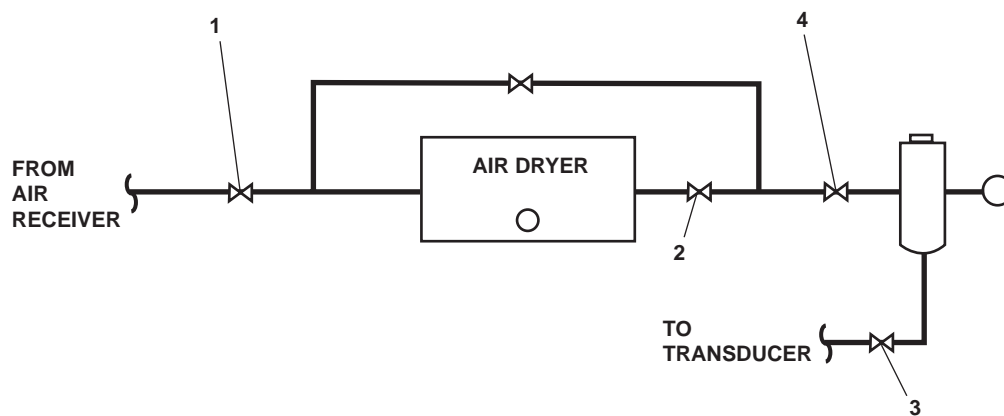

Figure 8. Control Air Dryer Valve Locations
- (1) CLOSE the air dryer inlet valve (figure 8, item 1).
- (2) CLOSE the air dryer outlet valve (figure 8, item 2).
- (3) CLOSE the transducer valve (figure 8, item 3).
- (4) CLOSE the filter valve (figure 8, item 4).